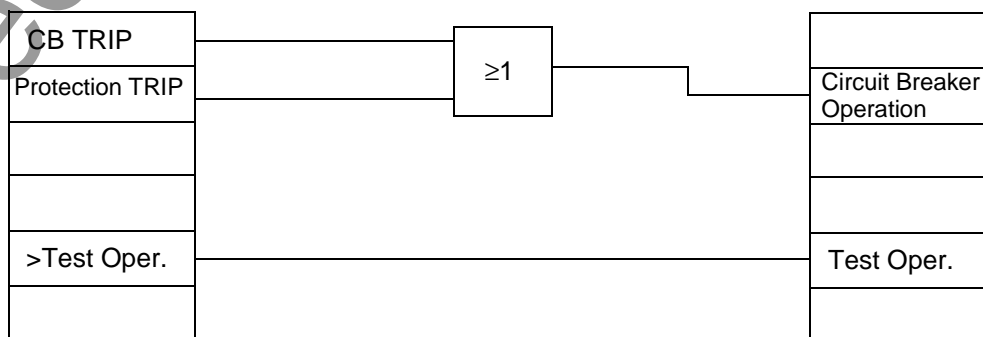

Figure 5-41 Additional logic as an example for a PLC_1 event-driven logic condition
By using slow PLC processing, an additional, event-driven logic condition may be constructed which delivers indications regarding switch-gear operating status. These indications may be passed externally via LEDs or relay contacts, or used as input signals for further logical links. In the example (see Figure 5-41), the output information indication from the circuit breaker interlocking logic (CB TRIP) and a joint indication from all protective element trip signals (Protection TRIP) are linked to a new "Circuit Breaker Operation" message. Furthermore, the single point indication (SP) **Test Oper.**, which may be coupled via a binary input, is linked with an internal reusable "Test oper. ." message.